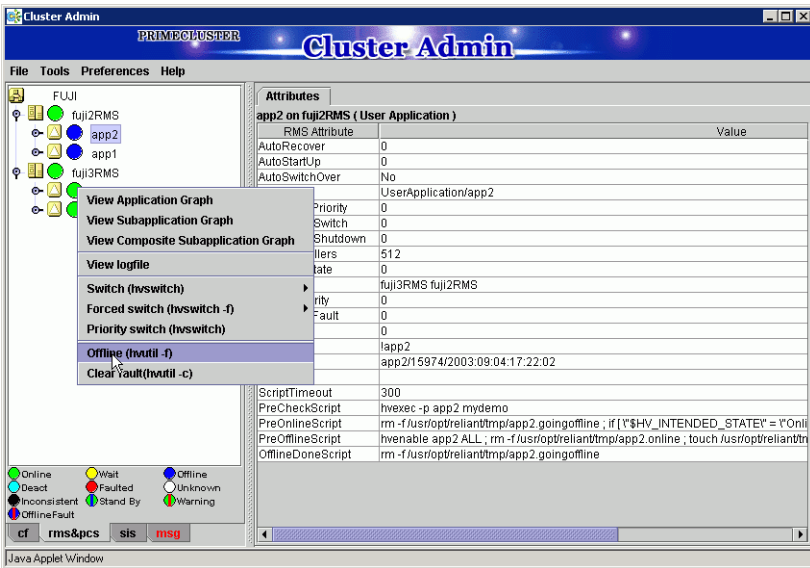

Figure 108: Shutting down an application
- ▶ Right-click on the application object and select the *Offline* option from the pop-up menu (Figure 108).